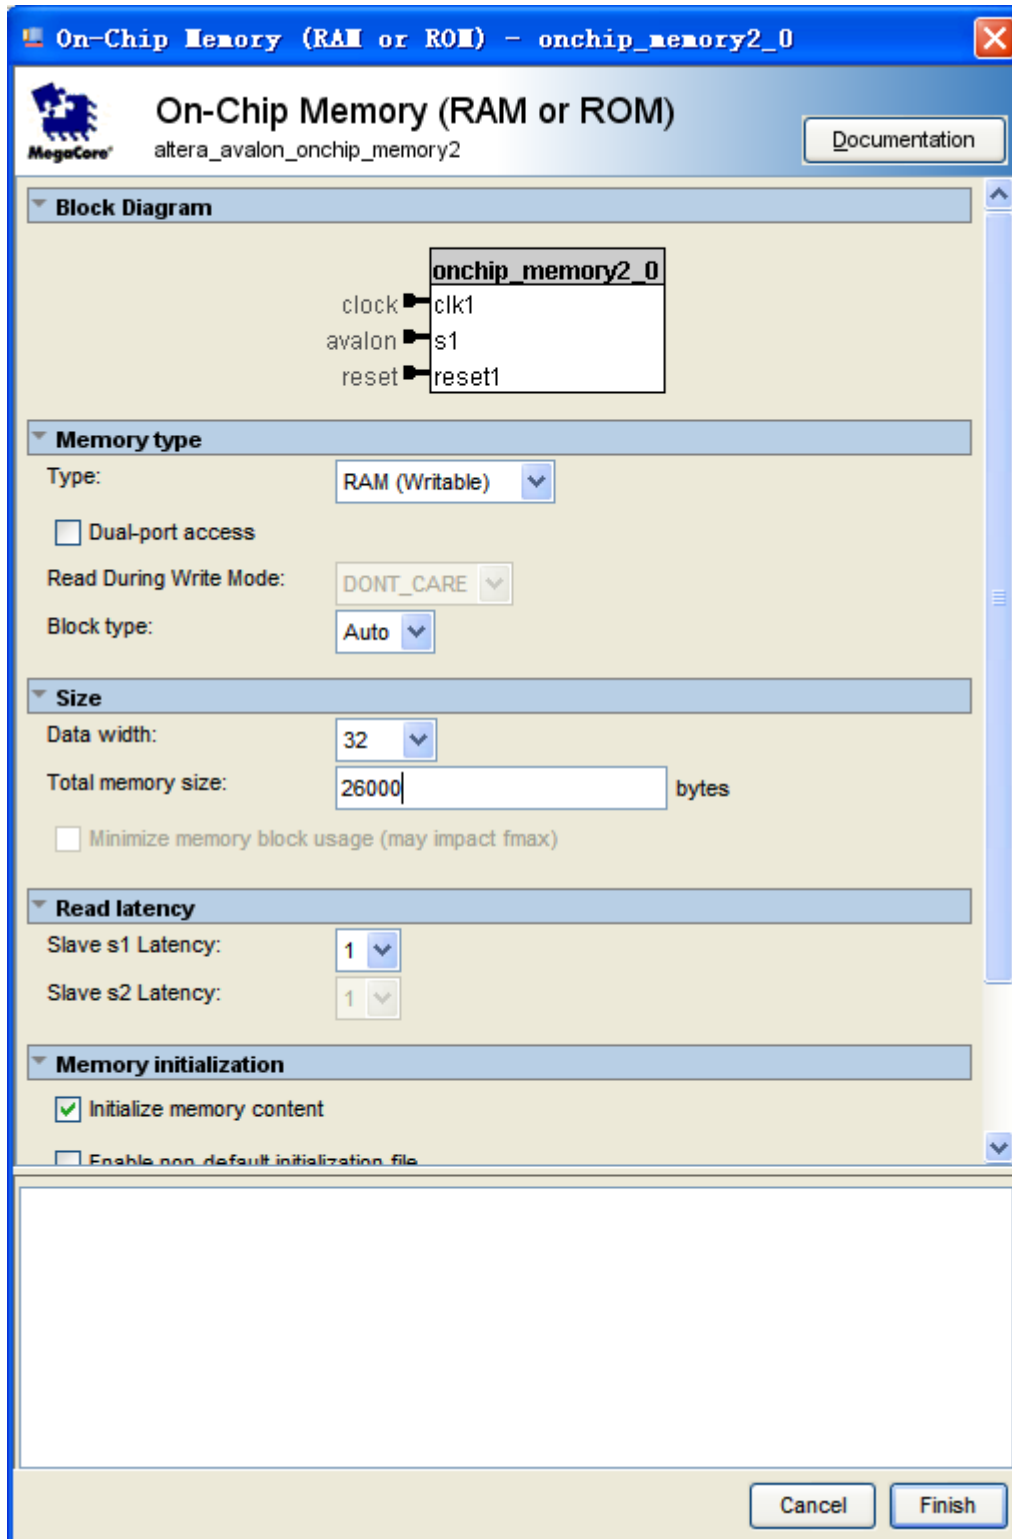
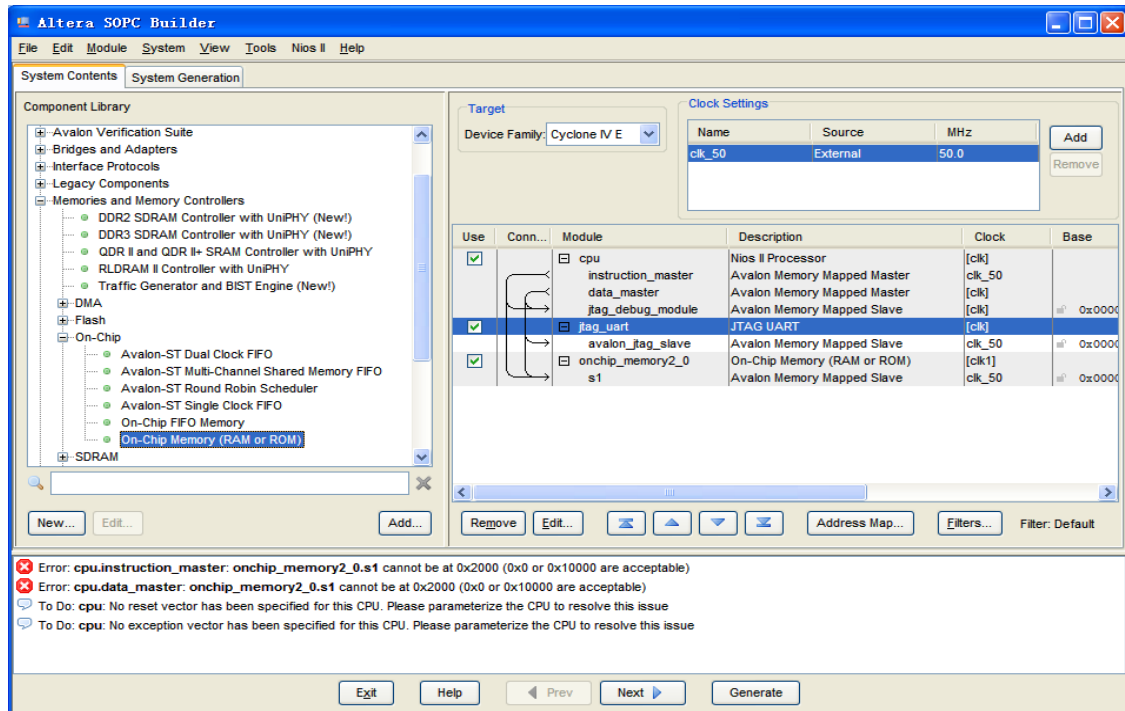

Figure 7-25 Update Total memory size
Figure 7-26 Add On-Chip memory
16. Modify Total memory size setting to **26000** as shown in Figure 7-25. Click **Finish** to return to the window as in Figure 7-26.